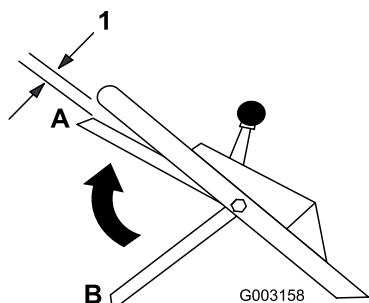

Figure 22
10. Lift the control bar up to about 1 inch (2.5 cm) below the handle; refer to position A in Figure 22.